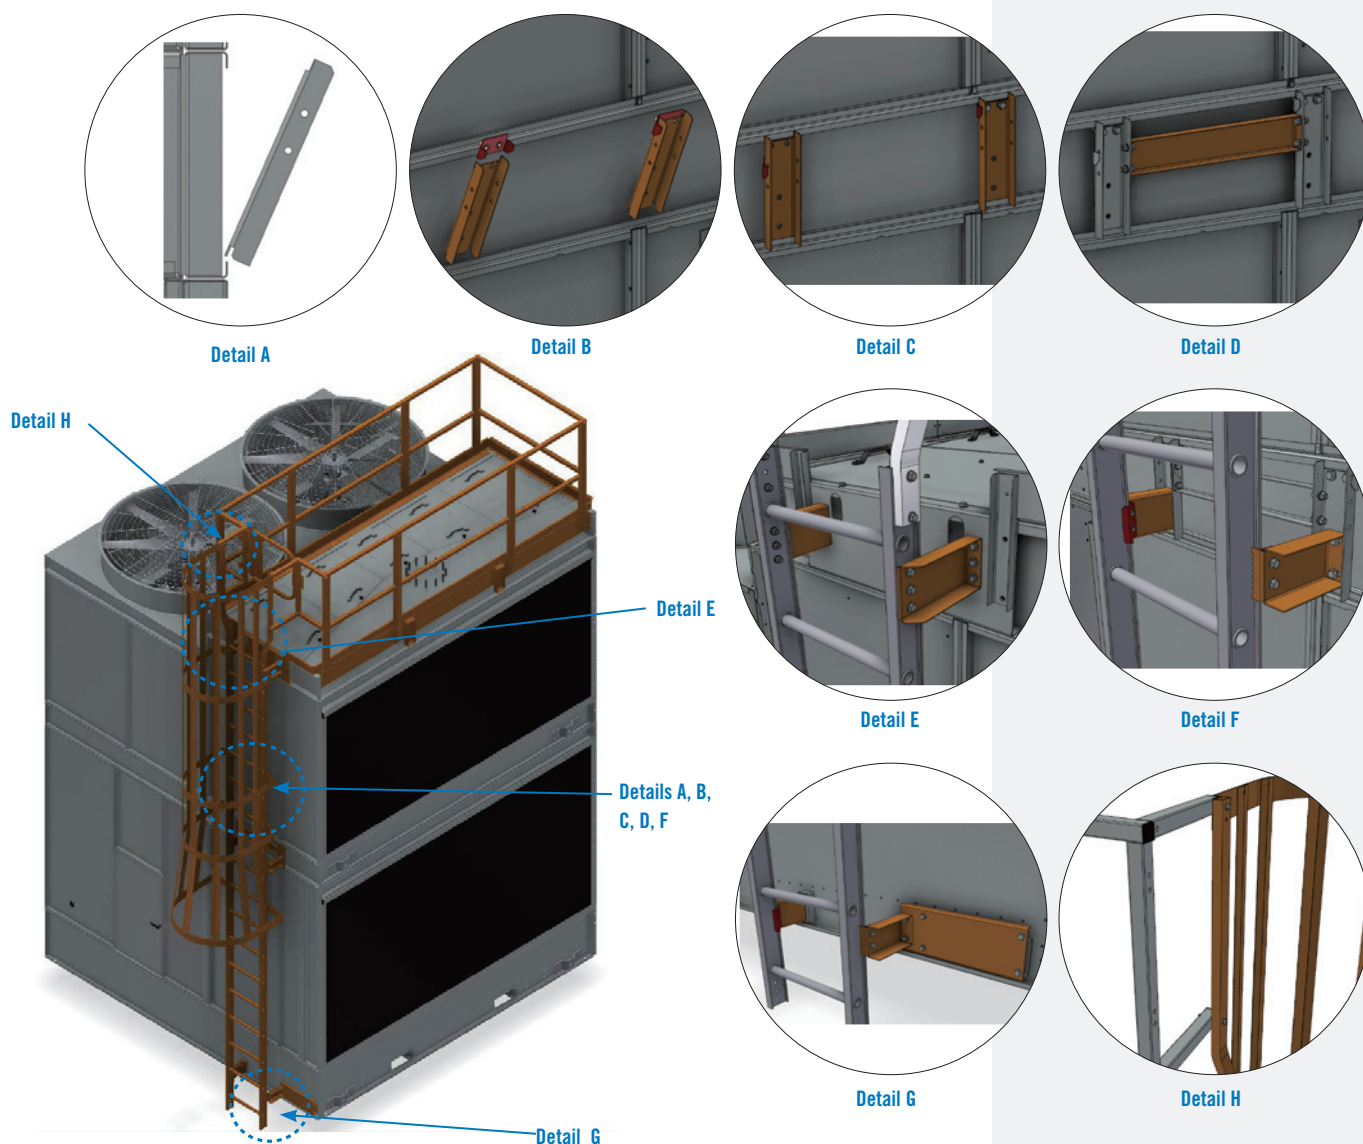

Figure 20. Hot Water Basin Handrail Ladder
- Drop the vertical mounting channels into the sheet metal break of the upper section base frame as shown in **Figure 20, Details A and B**.